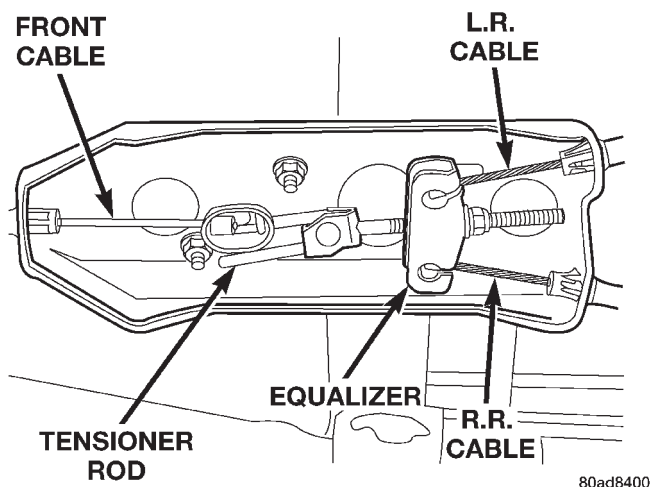
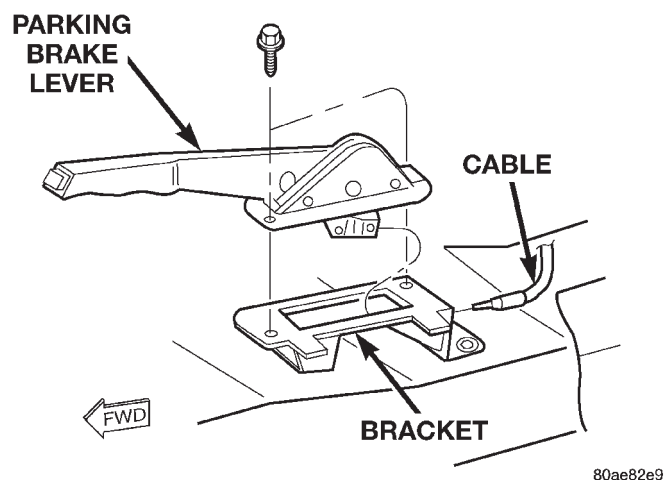

Fig. 43 Park Brake Cable Attachment
Fig. 44 Parking Brake Lever Mounting
(4) Remove front cable adjusting nut and disengage cable tensioner from equalizer. Then remove front cable from tensioner (Fig. 43).
(5) Disengage front cable from insert and insert from floorpan.
(6) Lower vehicle.
(7) Remove center console, refer to Group 23 Body.
(8) Disconnect parking brake switch wiring connector.
(9) Remove screws attaching parking brake lever to bracket and lift lever upward for access to front cable (Fig. 44).
(10) Disengage front cable from parking brake lever and remove lever assembly from vehicle.